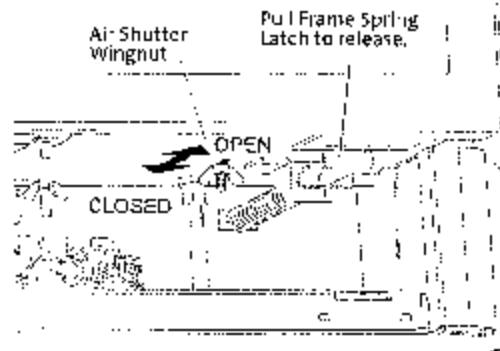

Figure 11. Frame latch and air shutter stem location.
- Loosen the locknut on the Air Shutter Stem, located under the firebox floor to the right of the Control Valve. This will allow you to disengage the Burner Tube. Fig. 11.